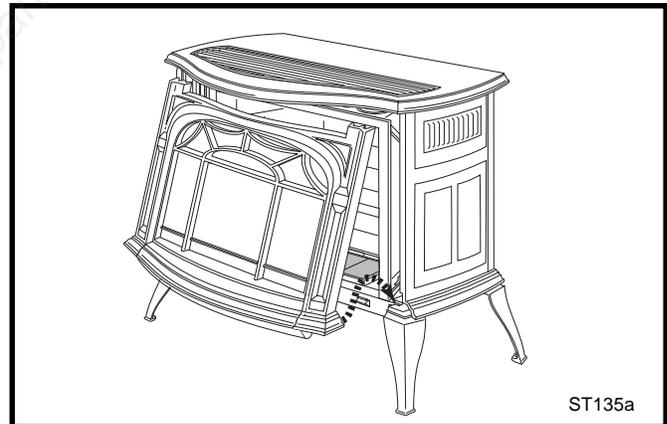

Fig. 24 Replace the front panel.
- Replace the stove front by grasping it by the left and right edges. Lift it so that tabs on the back side of the top corners engage notches at the top forward corners of the stove sides. Then gently swing the bottom of the front panel to a vertical position, and lower it till prongs on its bottom left and right corners engage with notches cast into the tops of the forward legs. (Fig. 24) Test that the front is installed securely by grasping two of panel's vertical bars, and pulling the panel toward yourself. When the panel is in place properly you should not be able to pull the bottom of the front toward yourself without also lifting it.